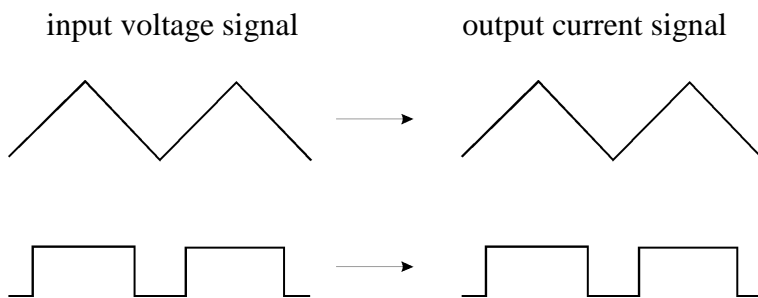

Figure 3: input-output relation using CURRENT INPUT
Analog input BNC connector for application of signals from an external stimulus source. The voltage signal that is connected here is transformed to a proportional current at the electrode with a sensitivity of 1 nA/V, i.e. an input voltage of 5 V is transformed to an output current of 5 nA. The signal form remains unchanged. Two examples are given in Figure 3. The amplitude of the output current signal (current stimulus) is determined by the amplitude of the input voltage signal.
Analog input BNC connector for application of signals from an external stimulus source. The voltage signal that is connected here is transformed to a proportional current at the electrode with a sensitivity of 0.1 nA/V, i.e. an input voltage of 5 V is transformed to an output current of 0.5 nA. The signal form remains unchanged (see also (24) and Figure 3).
**Important:** The current injected through the electrode is always the sum of the input signal at CURRENT INPUT (24 or 26), the holding current set by HOLDING CURRENT (11) and switch (12), and the gated stimulus set by STEP SIZE (28) and switch (27).